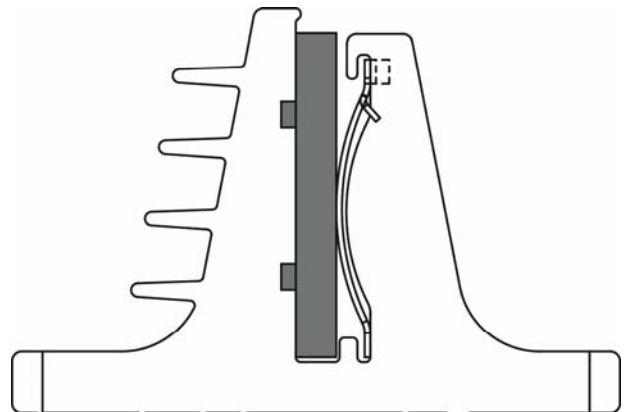

Fig. 6
- Push "J" Fuse assembly towards bottom as shown Fig's. 4 & 5, surface of connector until seated as shown in Fig 6.